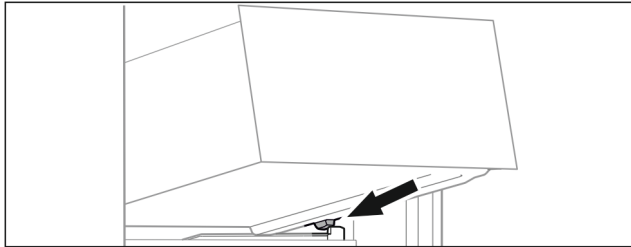

Fig. 94
- ▶ Place drawer at an angle behind the stoppers on the moulded rib. (see Fig. 94)